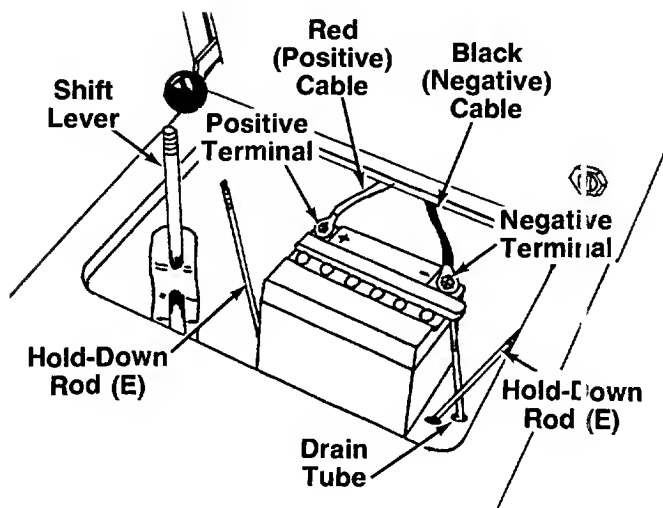

FIGURE 4.
4. Move the shift lever all the way to the left. See figure 4.
5. Hook the hold down rods (E) into the holes in the frame and lay them off to the sides.
7. Feed the end of the battery drain tube through the hole provided in this frame. See figure 4.
8. Slide the hex nut (provided with battery hardware) into the positive (+) terminal. Place the positive (heavy red wire) cable on the positive terminal. Secure with bolt provided. See figure 4.